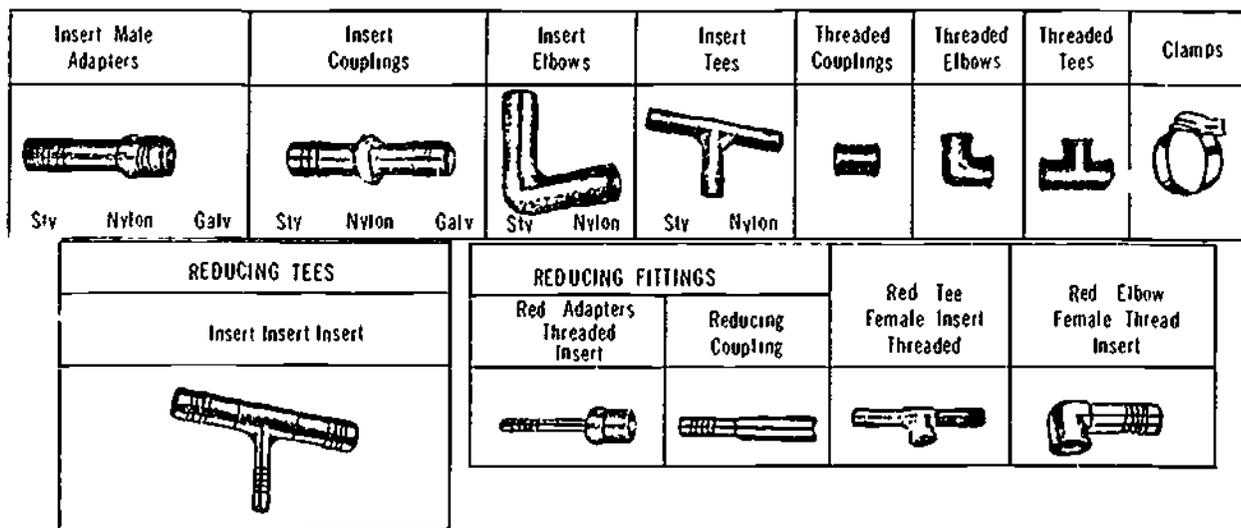

Figure 10-1. Insert Fittings and Clamps
b) Figure 10-1 shows types of insert fittings and clamps used with polyethylene pipe.